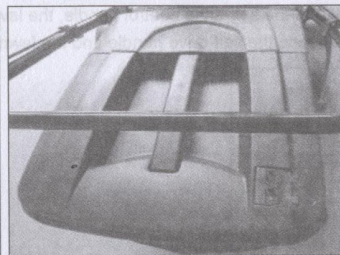

Fig. 9B
- If the catcher is full, the indicator will not rise; once this happens stop mowing immediately and empty the catcher, make sure it is clean and ensure its meshwork is clear. (Fig. 9B)